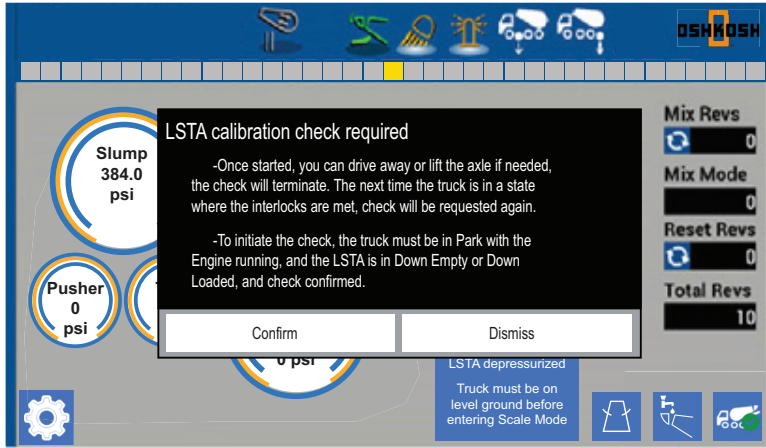

Figure 6 - LSTA Calibration
- The calibration check period of the LSTA hydraulic system was lengthened and requires acceptance from the operator before initializing, see Figure 6.